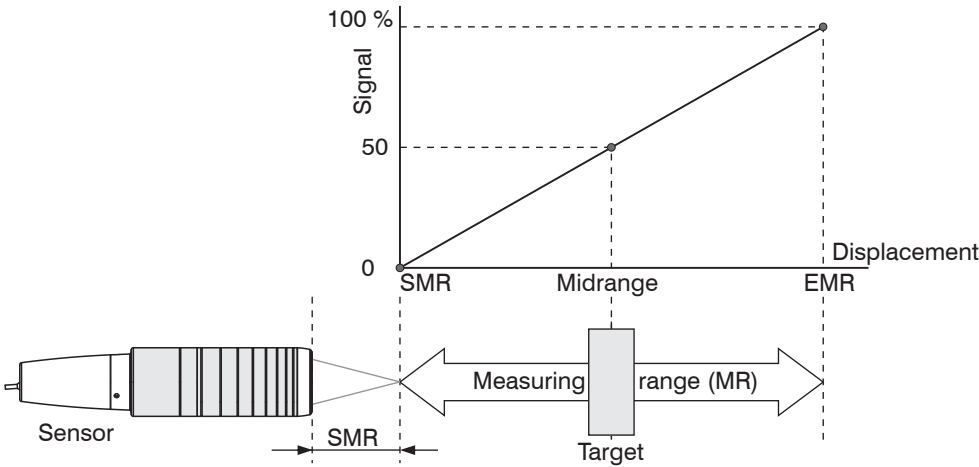

Fig. 41 Defining measuring range and output signal
- ➡ Position the target in the middle of the measuring range, see Fig. 41. Keep adjusting the measuring rate until you get a high signal intensity that is not oversaturated.